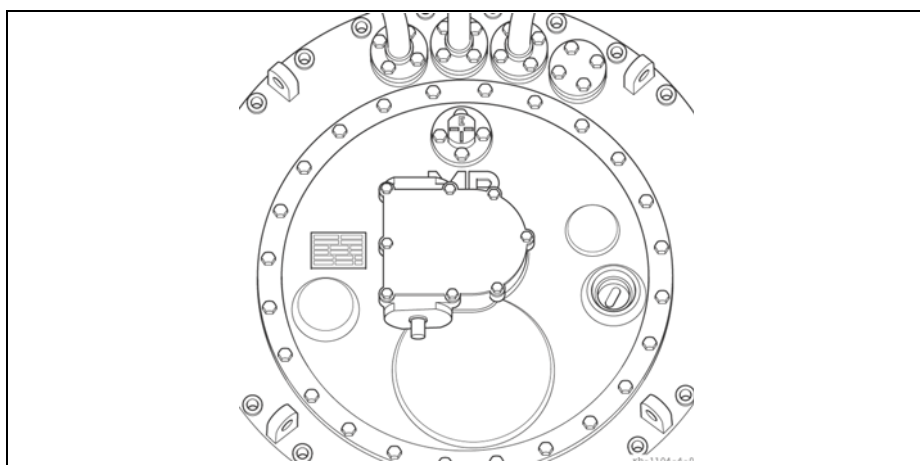

Figure 27 Closing on-load tap-changer head
10. Close the on-load tap-changer head with the cover. Pay attention to the round rubber gasket in the cover. Evenly screw down the on-load tap-changer cover with 24 screws M10/wrench 17, max. tightening torque 34 Nm, **Figure 27**.